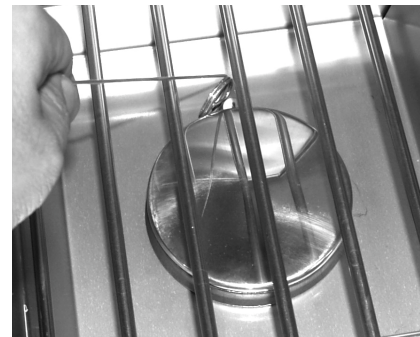

Fig. 27-2 Manual lighting
2. Insert either a burning long-barrel butane lighter, a burning long-stem match, or a burning match held by a wire extension holder through the cooking grid opening to the burner (Fig. 27-2). Hold the flame against the edge of the burner.
4. If the burner does not light within five (5) seconds of turning the control knob, **immediately depress the knob and turn the valve to OFF**. **WAIT FIVE (5) MINUTES** before repeating steps 2 through 4 of the **MANUAL LIGHTING** instructions.